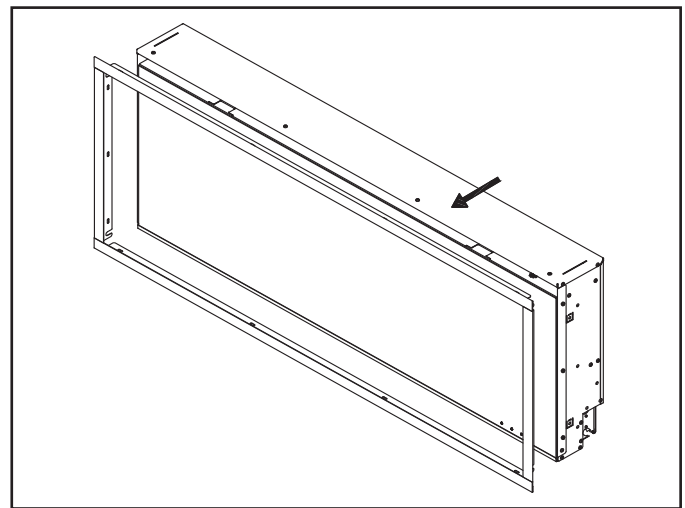

Figure 4 Remove Trim
- Pull Trim off from the front of the appliance. See Figure 4.